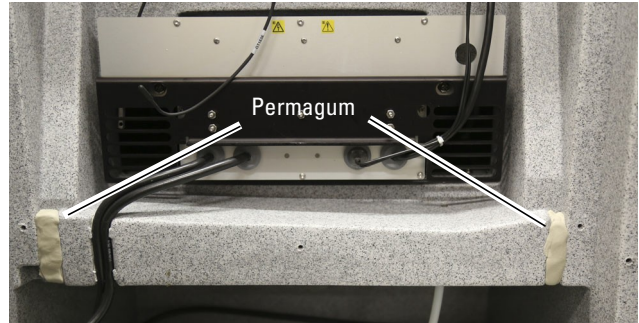

Figure 22: Seal grooves on refrigerator housing with Permagum
12. Seal the indicated areas with Permagum¹ sealing compound (Figure 22).